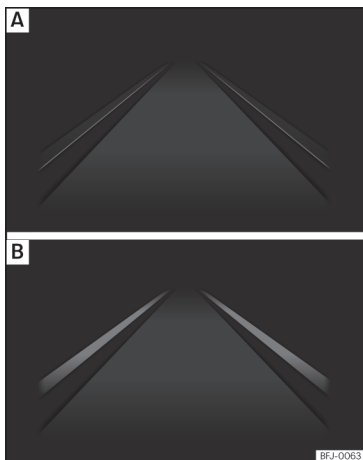

Fig. 271 On the instrument panel display: Indication on the Lane Assist system display [example 1].
- **Fig. 271 [A]:** The system is active, but not available, either because the minimum speed has not been reached or because the lane lines are not recognised.
- **Fig. 271 [B]:** The system is active and available, both lane lines are recognised. The steering angle is not being corrected at this moment.